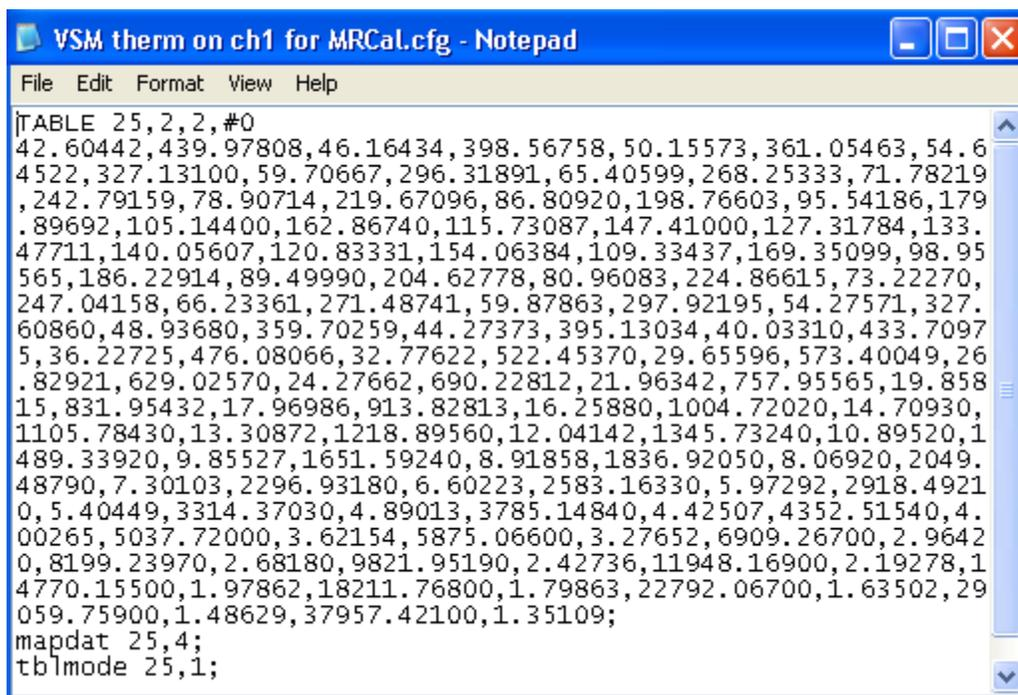

Figure 7: VSM thermometer configuration file to be sent to the Model 6000
2. Add the following commands at the bottom of the new configuration file containing only table 25 (Figure 7):